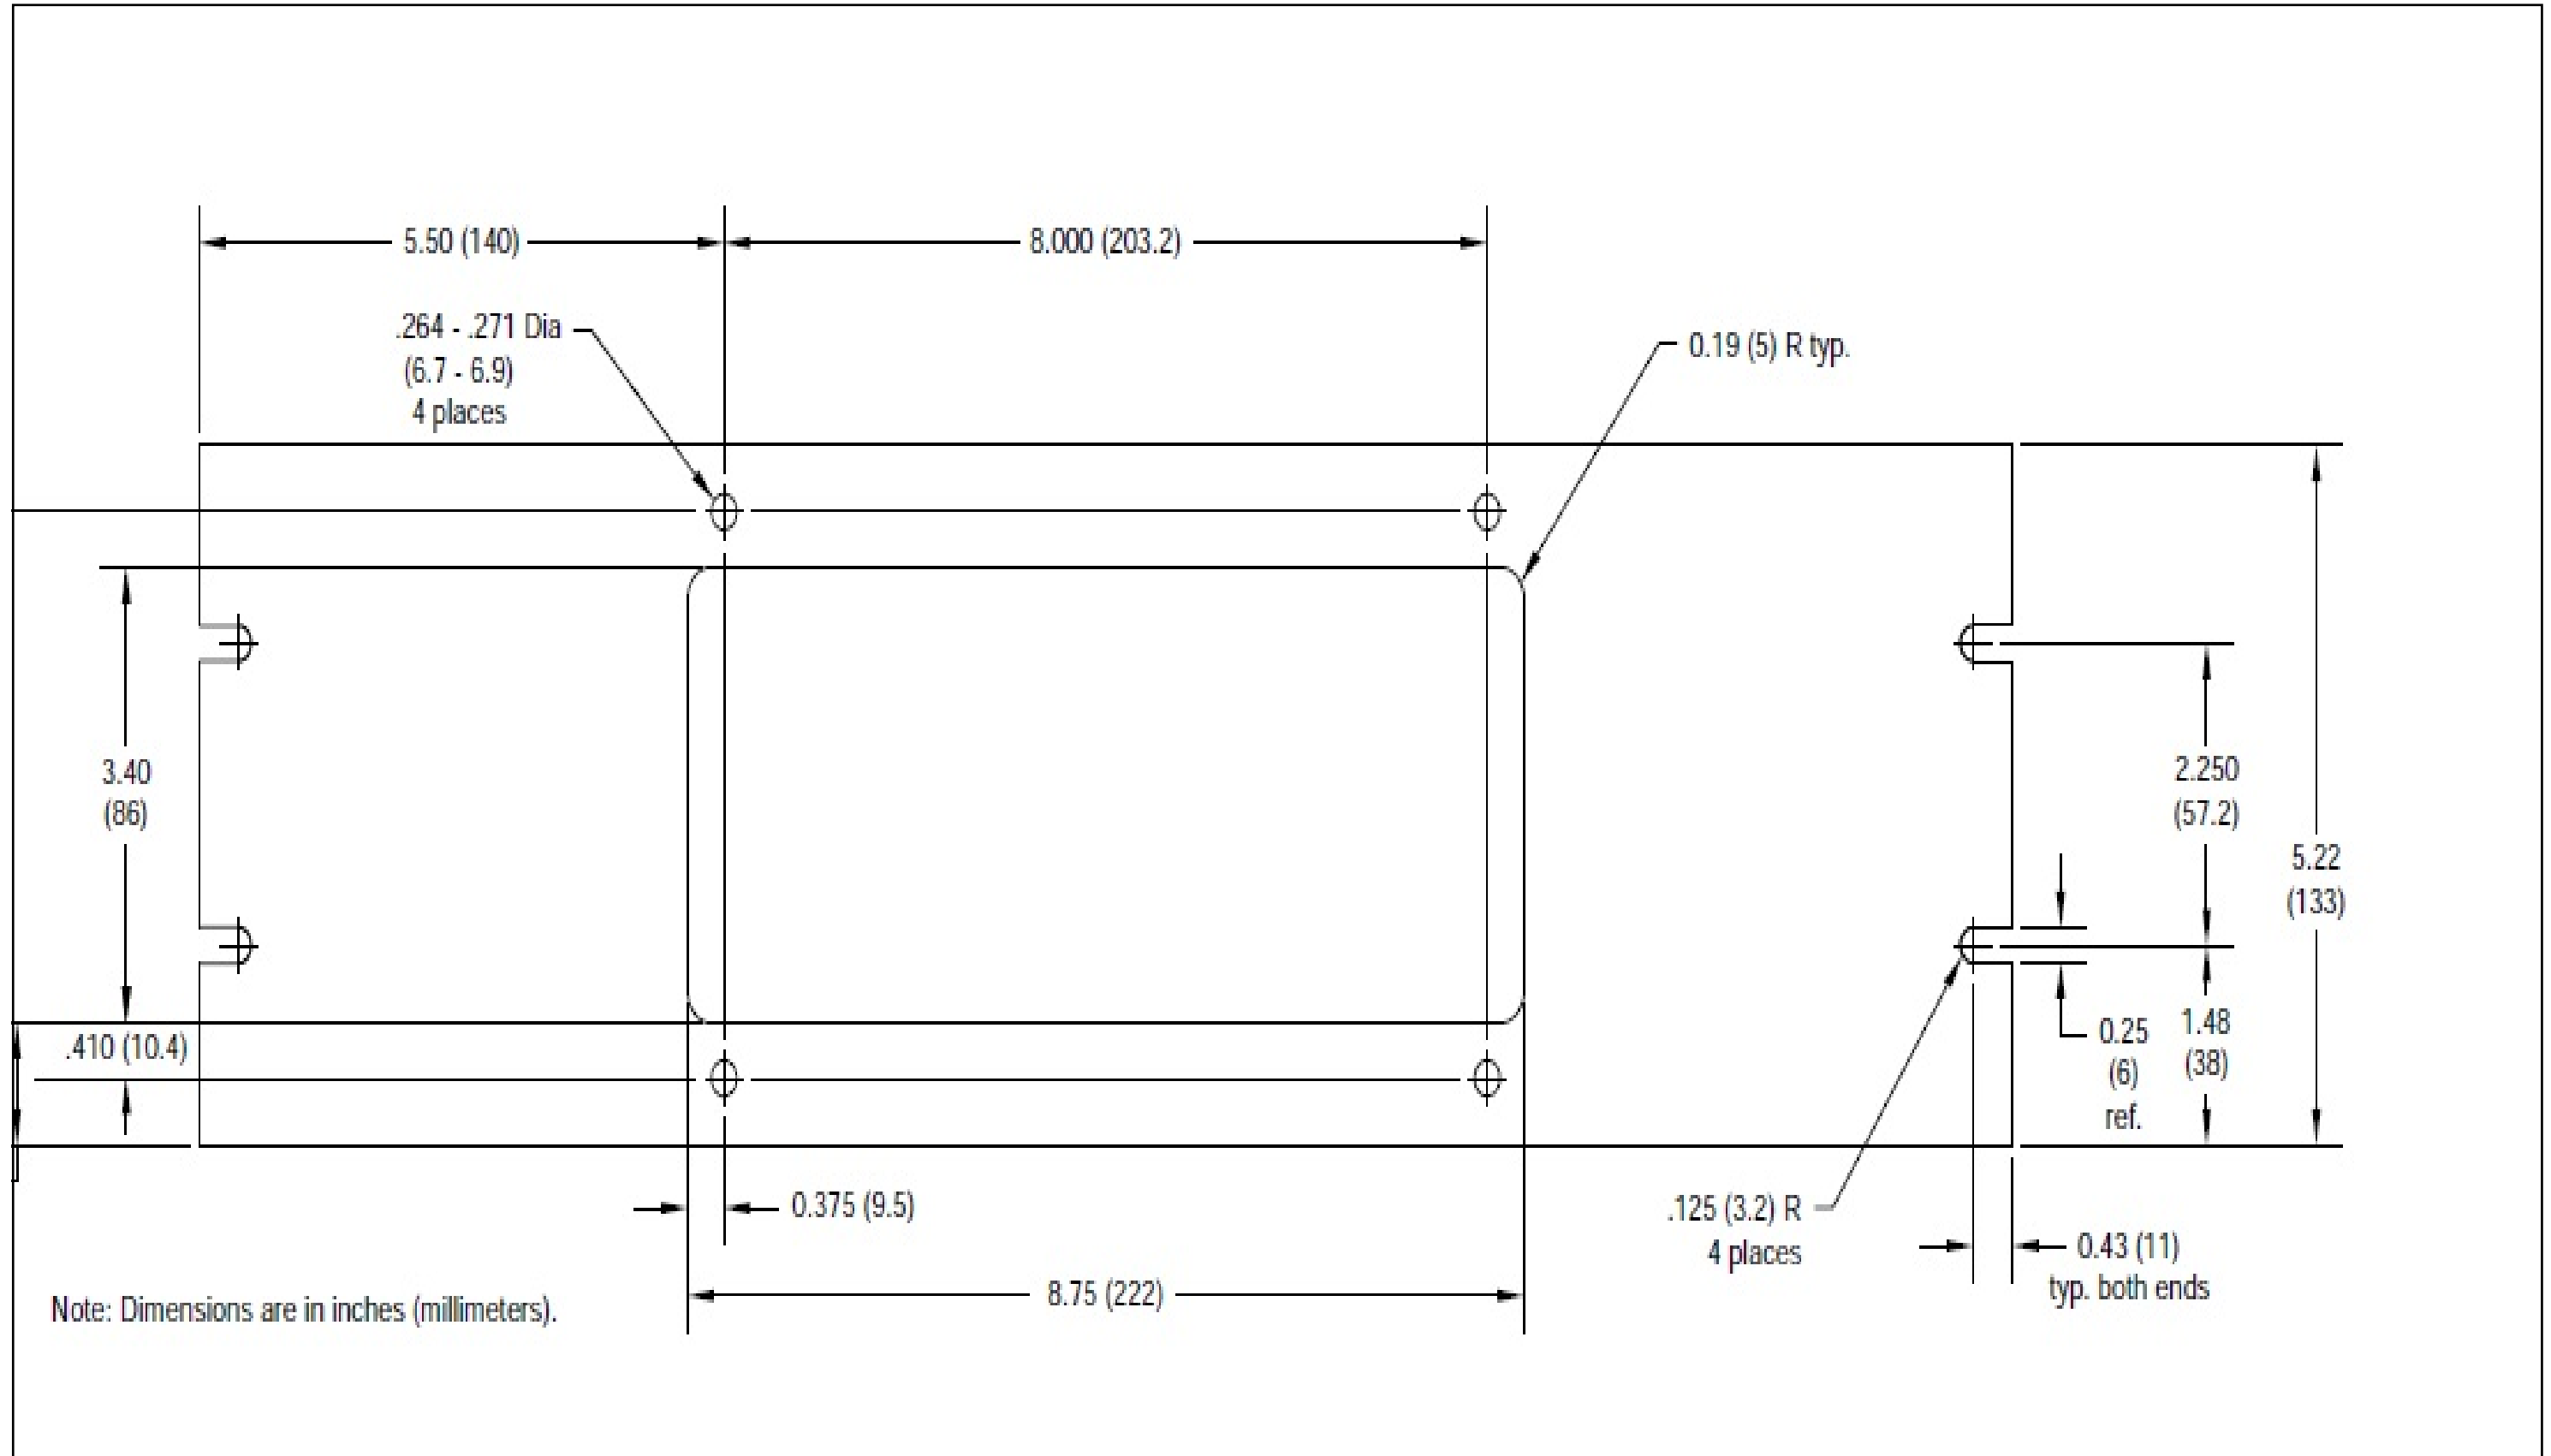

Figure 19: Panel and Rack Mounting Dimensions (ref. dwg #712-255)
- Figure 19: Panel and Rack Mounting Dimensions